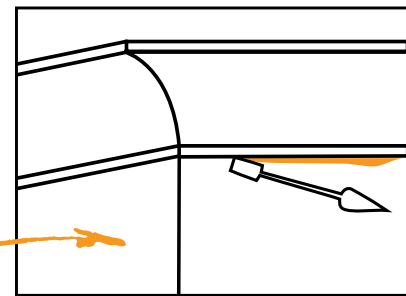

FIGURE 74 Clean Off Excess
- > Clean off excess and remove nails when cement has partially set. Straight stop along cornice edge at wall and ceiling. [Figure 74]